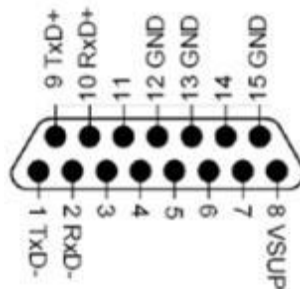

Figure 3.1 Pin connections
- The pin number on the connector is shown by Figure 3.1.